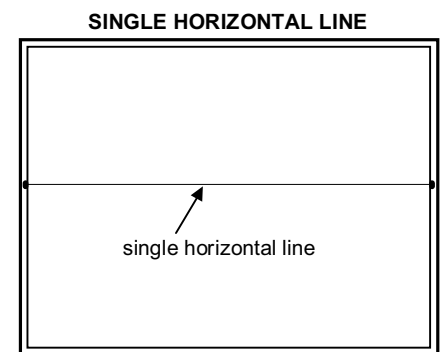

Fig. 10
- ② Whenever press the **CHROMA/PHASE** key, change the adjustment colour of R, G and B.
- ③ The single horizontal line service screen appears if press the **CONTRAST/BRIGHT** key (Fig. 10).